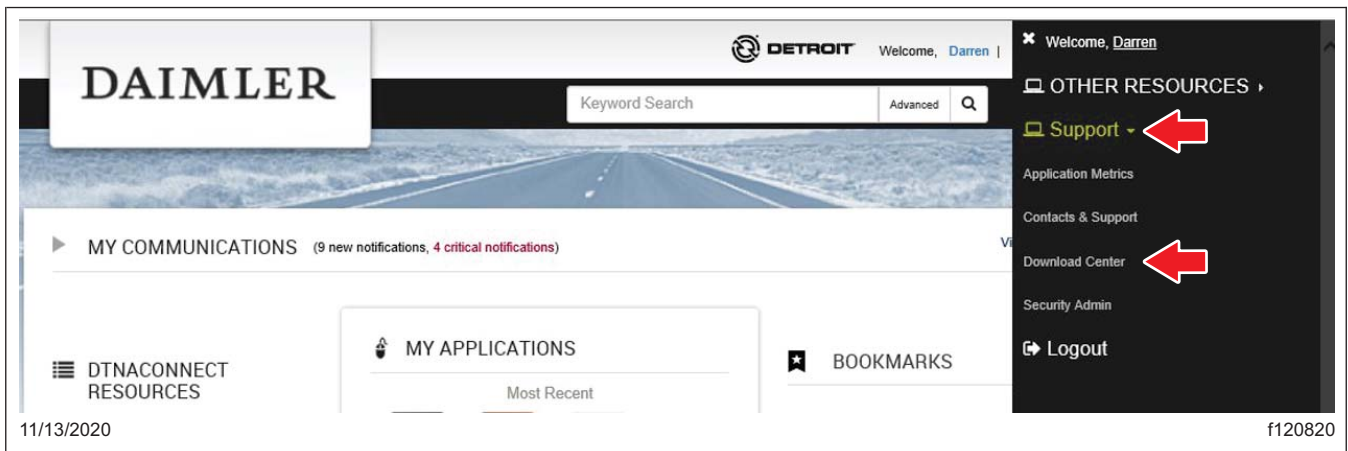

Fig. 2, Selecting Support and Download Center Screen
5. Select 'Support,' then select 'Download Center.' See Fig. 2.